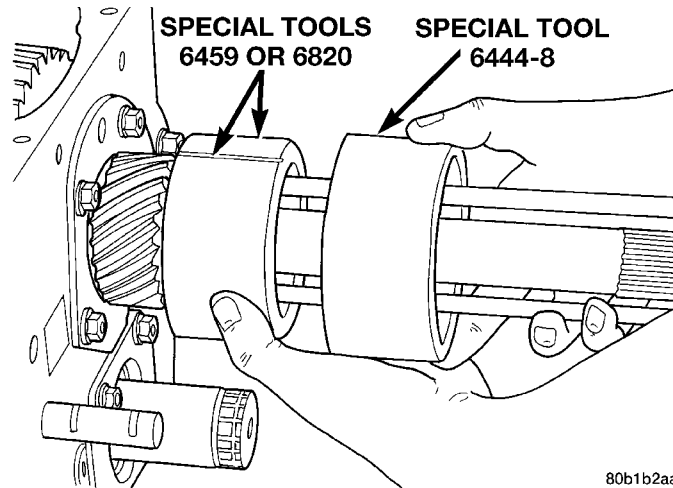

FIGURE 12 - Installing Retaining Collar Over Puller Jaws
5. Slide retaining collar Special Tools 6444-8 over puller jaws to hold them in place (Figure 12).